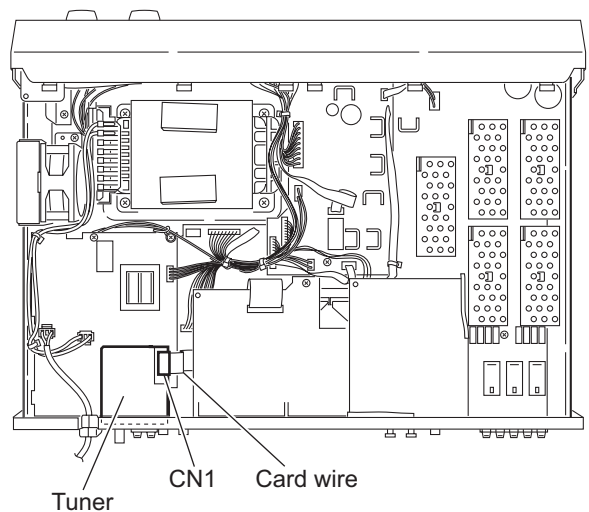

Fig.5
3.1.3 Removing the tuner (See Figs.5 and 6.)
- (1) From the top side of the main body, disconnect the card wire from the connector **CN1** on the tuner. (See Fig.5.)